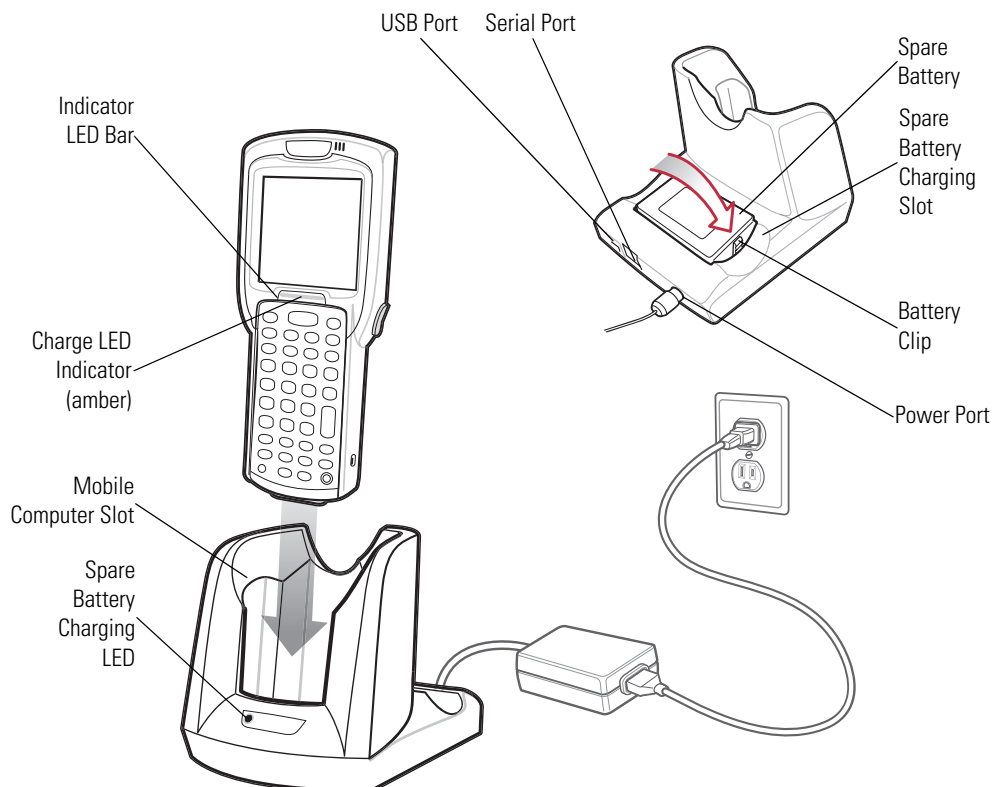

Figure 4-1. Single Slot Serial/USB Cradle
3. The Spare Battery Charging LED (see Figure 4-1 on page 4-4) indicates the spare battery charging status. The Standard Battery charges in less than four hours and the Extended Life Battery charges in less than six hours. See Table 4-1 for charging status indications.